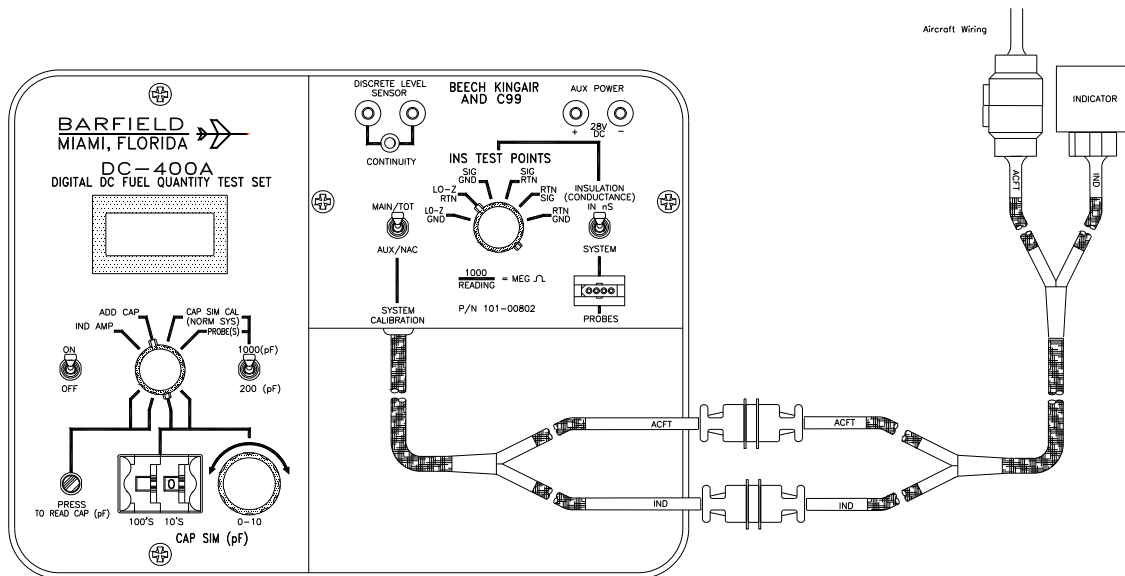
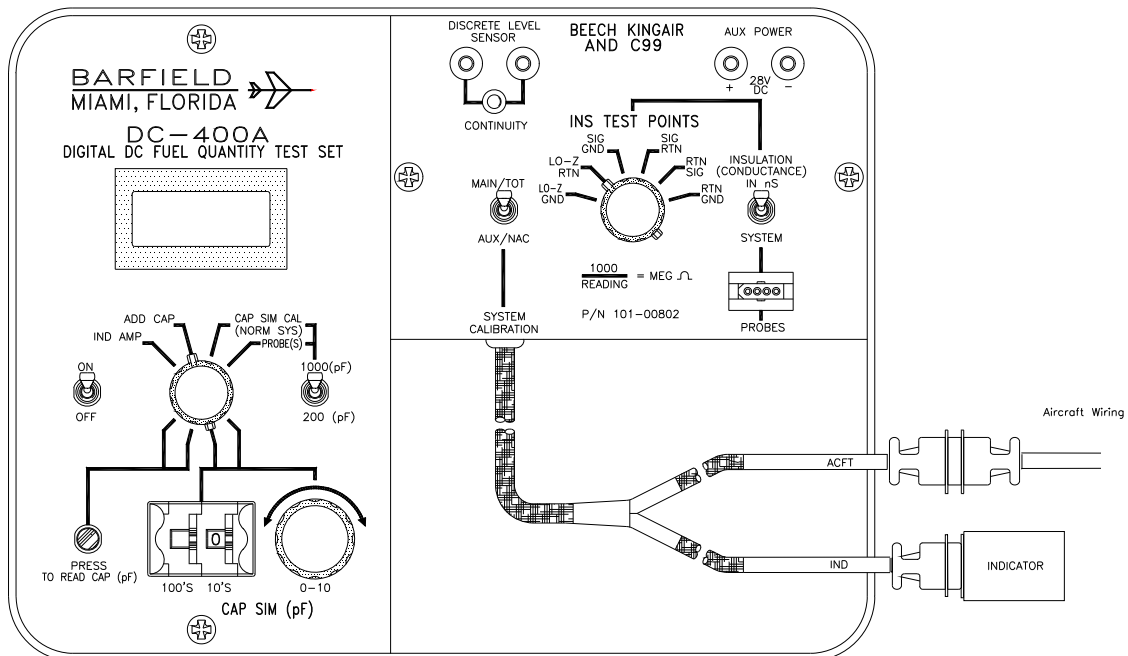

Figure 5 Indicator Test Set Connection (With 101-00831 Adapter)
Figure 6 Indicator Test Set Connection
- (1) Connect the test set as shown in either Figure 5 or Figure 6. Figure 5 depicts using Adapter Cable 101-00831 for conversion to systems with circular style connectors.
Connect the test set as shown in either Figure 5 or Figure 6. Figure 5 depicts using Adapter Cable 101-00831 for conversion to systems with circular style connectors.